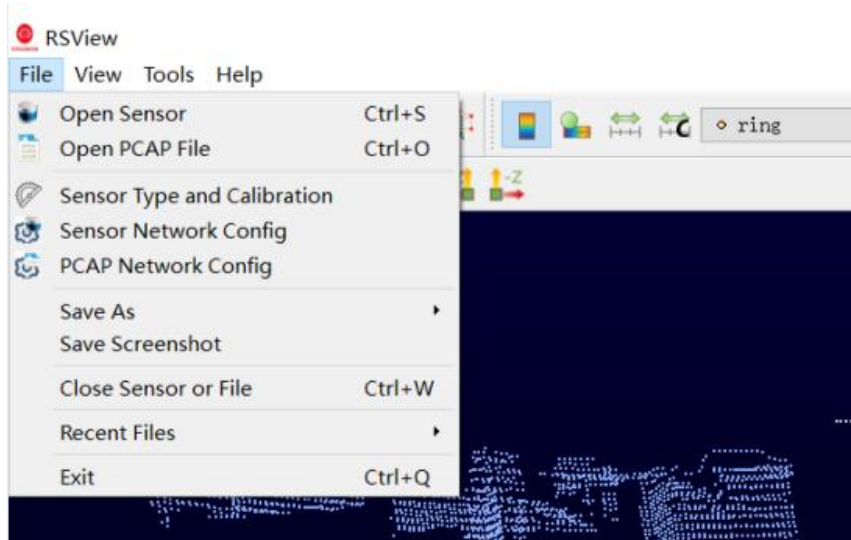

Fig A-1: Open the Sensor Stream in RSView.
3. Click on the **File > Open Sensor** (Fig A-1).